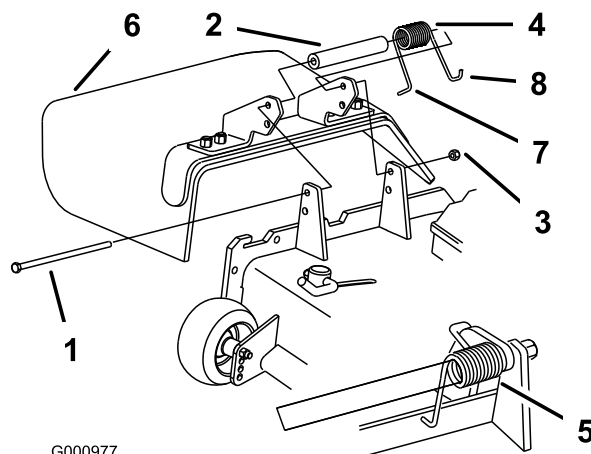

Figure 35
1. Remove the locknut, bolt, spring and spacer holding the deflector to the pivot brackets (Figure 35). Remove the damaged or worn grass deflector.
- Note:** Ensure that the L-end of the spring is installed behind the cutting unit edge before installing the bolt as shown in Figure 35.
3. Install the bolt and nut. Place the J-hook end of the spring around the grass deflector (Figure 35).